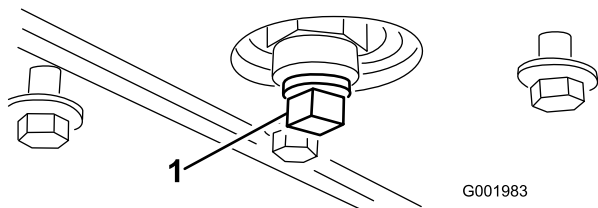

Figure 51
5. Remove the drain plug (Figure 51).